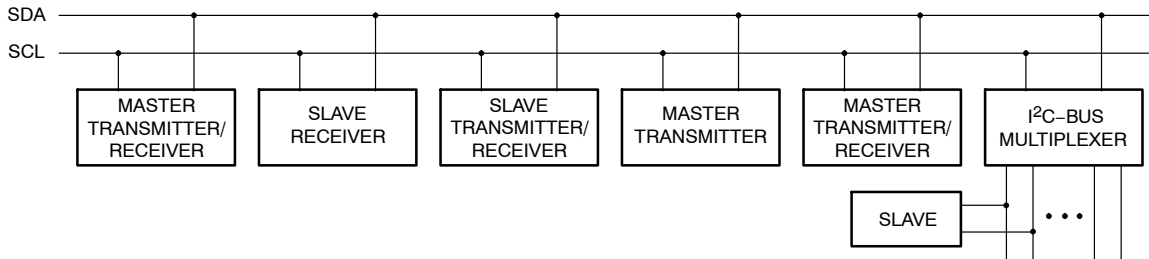

**Figure 13. Definition of START and STOP Conditions**
HIGH. A STOP condition (P) occurs when there is a LOW-to-HIGH transition of the data line while the clock is HIGH (see Figure 13).